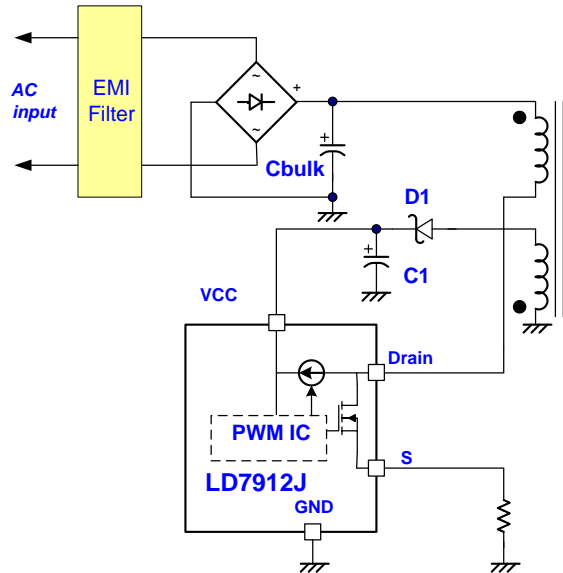

Fig. 13
As shown in Fig. 13, during startup, a high-voltage(HV) constant current source ($\sim 1\text{mA}$) sinks current from the Drain pin to provide start-up current to the PWM IC and Vcc charge current to capacitor C1. During this period, the PWM IC sinks only $300\mu\text{A}$, thus most of the rested HV current is reserved to charge the Vcc capacitor. After the Vcc rises over UVLO(on) threshold, the HV current source will be shut off to activate the LD7912J. Vcc supply current is then provided from the auxiliary winding of the transformer. Therefore, it can minimize the power loss and achieve power saving during startup.